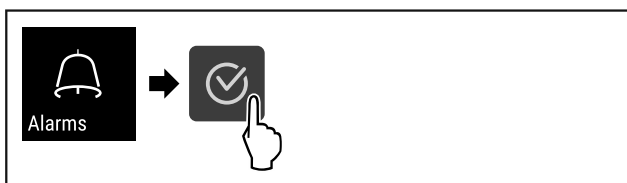

Fig. 139
- ▶ Carry out steps (see Fig. 139).